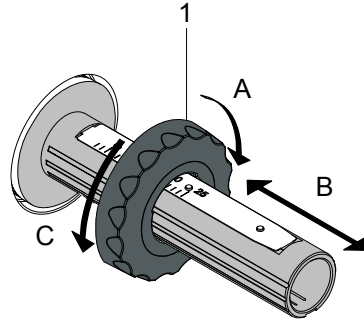

Fig. 12 Guide Adjustment
2. Turn lever (6) counterclockwise to open the printhead.
3. Set guide (1) on both hubs to the correct transfer ribbon width (Fig. 12):
- Hold hub and unlock guide (1) by turning it in direction A.
4. Load transfer ribbon (4) on the hub (5) until it reaches the guide in a way that the color coating of the ribbon faces the opposite side of the printhead after being loaded.
**To wind the ribbon a ribbon core (3) is needed that must be at least equal in width to the supply ribbon.**
5. Adjust position of the guide on the take-up hub to the width of the ribbon core (3) and push ribbon core on the take-up hub (2).